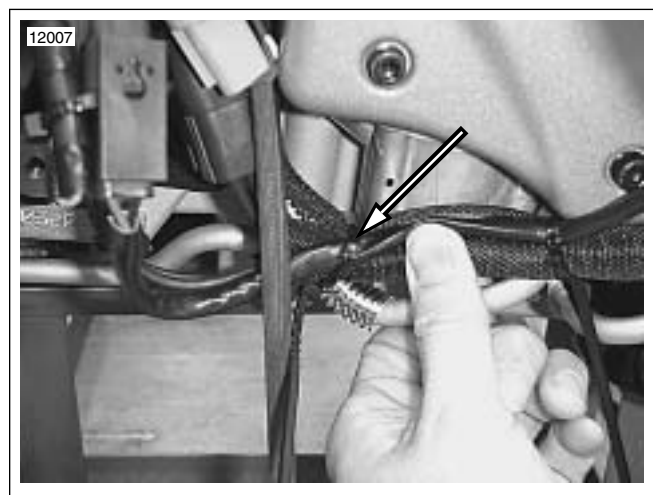

Figure 7-92. Cable Strap Wire Bundle to Return Oil Line
11. See Figure 7-92. Position the cam position sensor wire bundle and the voltage regulator wire bundle inboard, then push the wire bundle up against the return oil line and cable strap them to the return oil line.